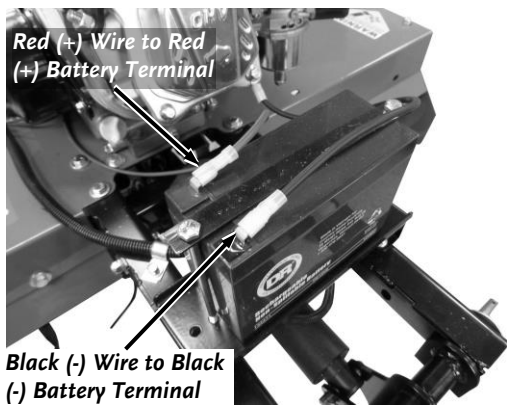

Figure 3
1. Plug the Battery Cables onto the Battery Terminals (**Figure 3**).